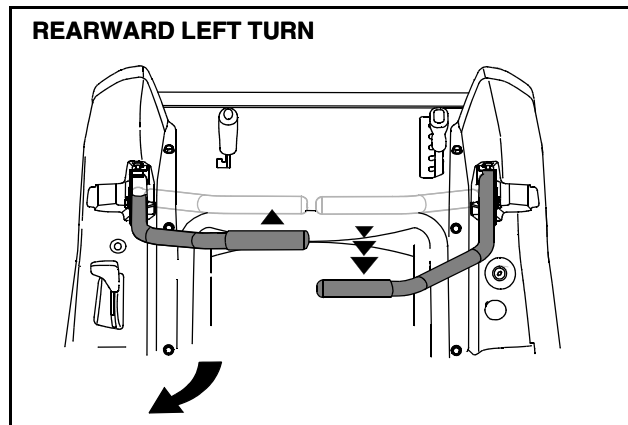

Figure 15
- To turn to the left while traveling in reverse, move the left drive control lever forward of the right lever. See Figure 15.